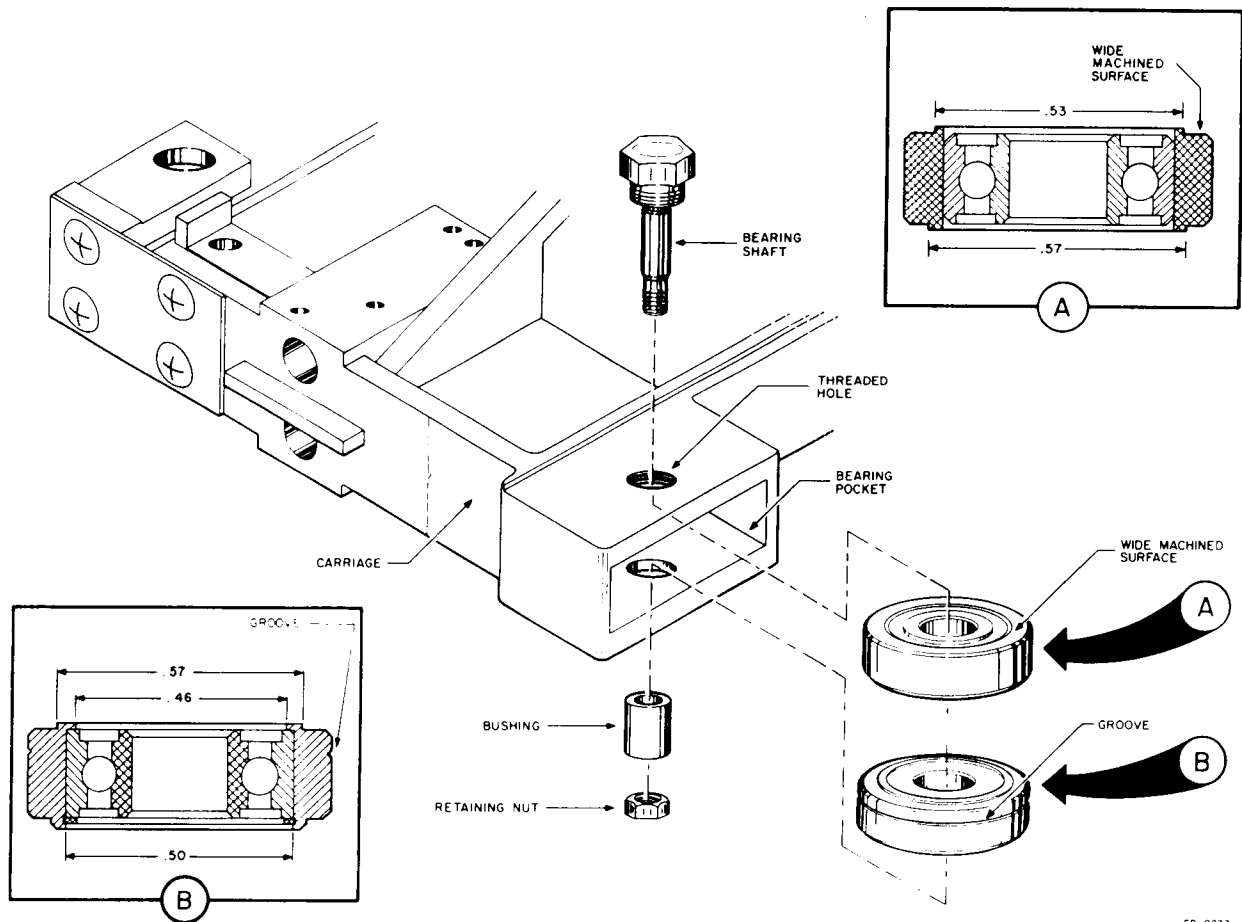

Figure 5-5 Carriage Bearing Assembly Removal
3. Using a 3/8-in. nut driver, loosen the bearing shaft nut (Figure 5-5) one-half turn.